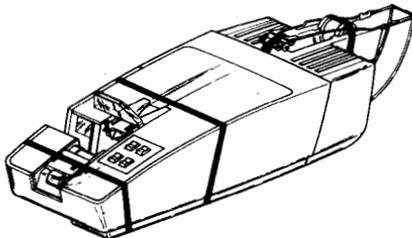

Fig. 1
1.01 This section provides installation and removal information for the Paper Tape Unit (Fig. 1), hereafter known as the PTU.